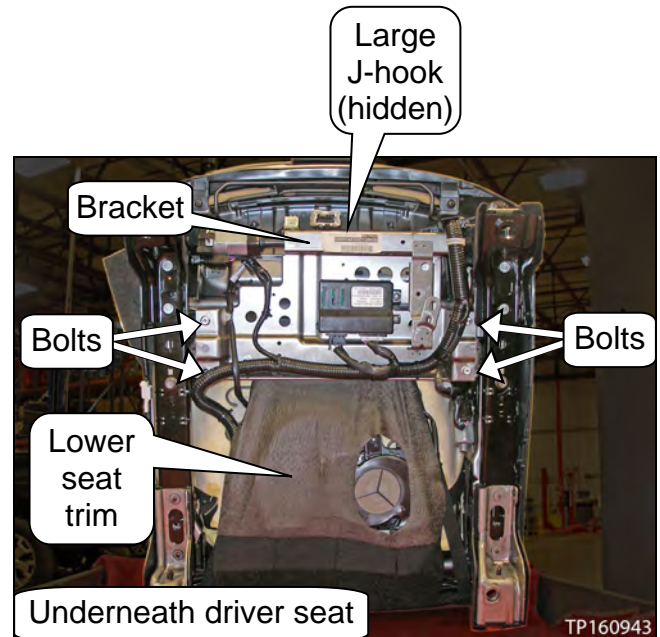

Figure 4
NOTE: For easier viewing, a driver climate controlled seat has been removed from the vehicle (see Figure 4). Climate controlled seats only need to be unbolted and tilted fore or aft and do not need to be removed from the vehicle to perform this service procedure.
1. Climate controlled driver seat: Remove the four (4) bolts. See Figure 4.
NOTE: Figure 4 shows a typical climate controlled driver seat. Your vehicle's seat configuration may differ slightly.